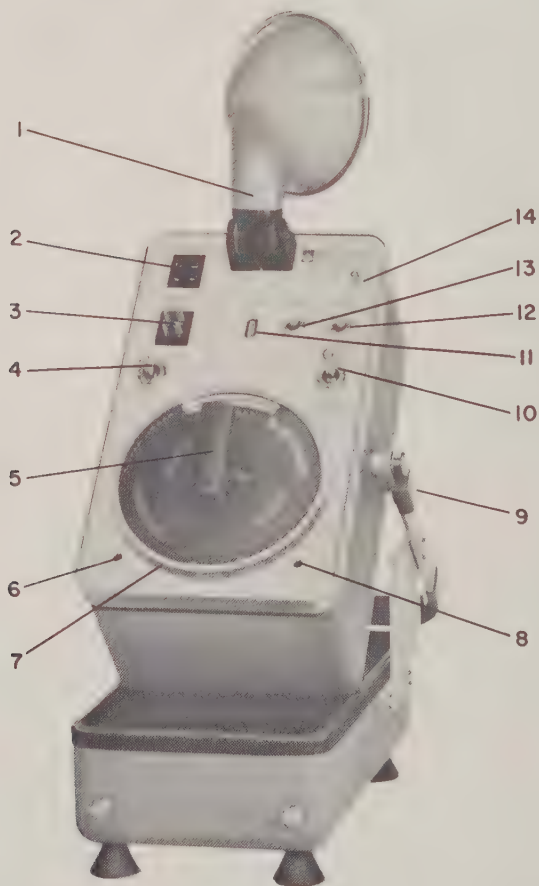

Figure 1-3. The front panel of the stroboscope, showing the controls and connectors.
All controls and connectors are located on the front panel of the instrument (see Figure 1-3). The type and function of each are given in Table 1-1.
b. Unlock the case by sliding the two gray latch blocks, 9, Figure 1-3, (one on each side of the case) away from the handle. (It may be necessary to push down on the top of the instrument to release the latch blocks).
c. Push the 4-prong socket (1, Figure 2-1) at one end of the ac power cable onto the panel power plug (3, Figure 1-3) and wind the cable in a counterclockwise direction around the range-switch bar knob and the reflector.
d. To secure the cable end, slide the 3-wire plug (2, Figure 2-1) onto the 1/2-inch pin (14, Figure 1-3) on the panel.
e. To complete the closing of the case, push down slightly on the handle of the case with one hand, and with the other swing the instrument so that the panel is facing down. Lower the instrument onto the rubber gasket by slowly releasing the handle. Apply light pressure on the top of the case and slide the two gray latch blocks (9, Figure 1-3) toward the handle to lock the case.
The stroboscope will also operate on 24 volts dc. The Type 1538-P3 Battery and Charger (Figure 2-3) is recommended for this type of operation (see paragraph 2.3.3). The dc power also is applied at the 4-prong plug (3, Figure 1-3) on the panel, and is controlled by the ON-OFF, POWER switch (4, Figure 1-3).